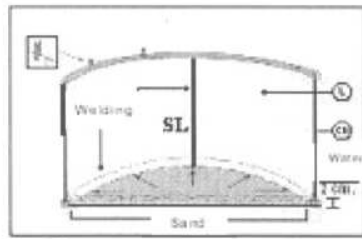

fig. 19
- a) Place the liner in the center of the swimming pool and unfold it towards the sides. The welded part that joins the base of the liner with the side must perfectly match the lower sections and the wall (fig. 19), all around the inside perimeter at the bottom of the swimming pool. The welded part of the liner must be placed towards the ground and the wall of the swimming pool.